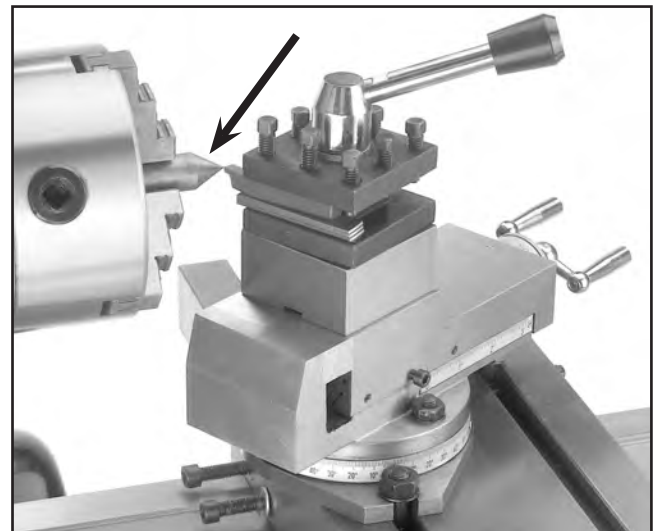

Figure 21. Finished dead center.
2. Make a dead center by turning a 60° point on a piece of scrap material (**Figure 21**). Note— *As long as it remains in the chuck, the point of your new center will be accurate to your spindle axis. Keep in mind the point will have to be refinished whenever it is removed and returned to the chuck.*